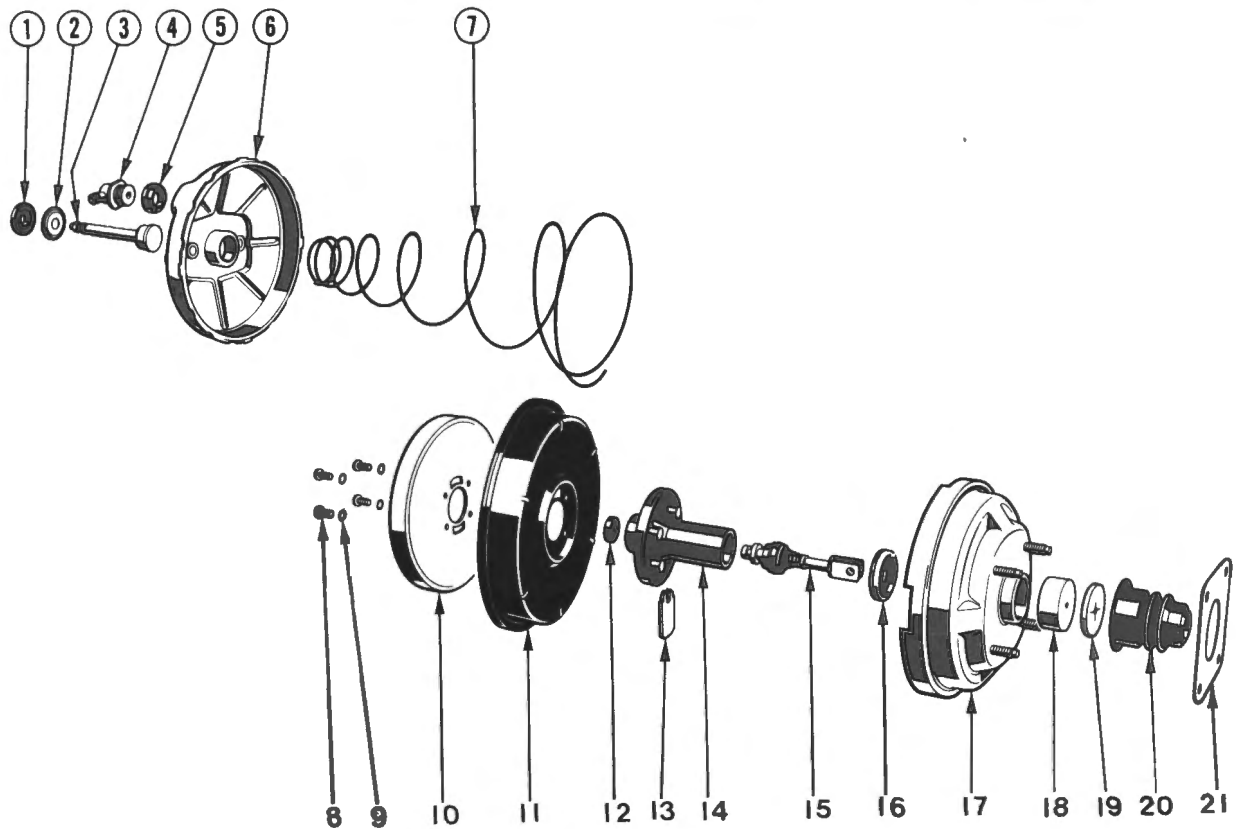

Fig. R-8
The air filter is mounted between the valve operating rod and the valve body on the rear shell of the Master-Vac unit. Refer Fig. R-8.
- 3 Scribe a line across the front and rear shells of the Master-Vac to ensure correct assembly. Refer to Fig. R-8 for the identification of the components listed in the following procedures.
- 4 Remove master cylinder and push rod (3) from front shell (6). The master cylinder push rod seal (1) and push rod seal support plate (2) are also removed with the push rod.
- 5 Remove check valve (4) and grommet (5) from the front shell (6).
- 6 Remove retainer plate (21) and boot (20) from rear shell (17).
- 7 Secure the jig firmly in a vice and place the four studs of the rear shell of the Master-Vac into the four holes in the jig. Place a bar between the studs in the front shell (6) and ensure that the bar is maintained against the plain part of the master cylinder retaining studs to avoid damage to the threads.
- 1 Support the rear shell (17) on wooden blocks and drive in the rear shell seal (16) using a suitable piece of tubing. Refer Fig. R-8.